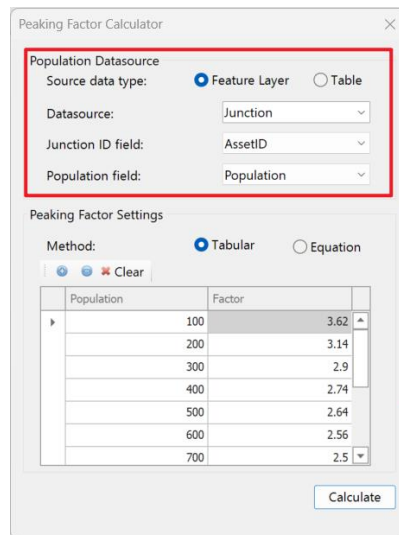

Figure 3: Population data source in the *Peaking Factor Calculator*.
2. The *Peaking Factor Calculator* requires a population dataset associated with junctions or nodes to calculate the subsequent peaking factors. This population dataset can be a feature class or external table with matching junction asset IDs. **Figure 3** shows how to import the population data from a feature layer based on matching junction asset IDs.